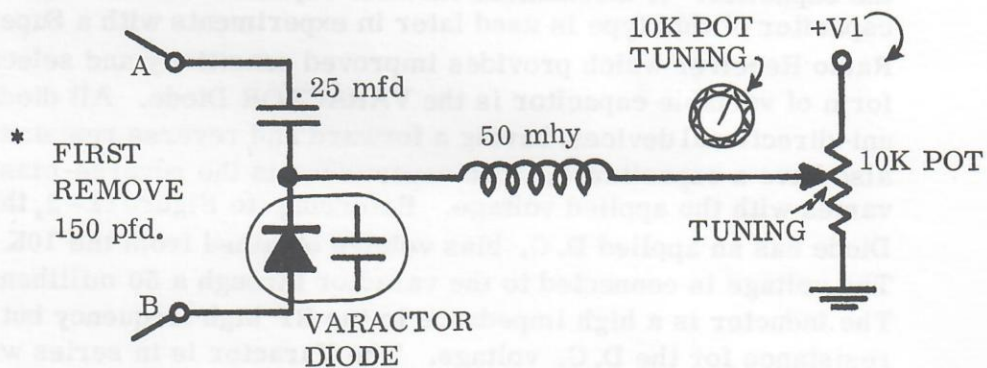

Figure 12-2 Varactor Tuning
The receiver frequency is determined by the resonant frequency of the tuned circuit. The radio channel frequency is varied by using the RF Coil Tuning slug knob. The frequency can also be varied by changing the value of the capacitor. A mechanical variable capacitor can be used for tuning. A capacitor of this type is used later in experiments with a Superhetrodyne Radio Receiver which provides improved sensitivity and selectivity. Another form of variable capacitor is the VARACTOR Diode. All diodes are not only uni-directional devices, having a forward and reverse resistance, but they also have a capacitance. The capacitance in the reverse-bias direction varies with the applied voltage. Referring to Figure 12-2, the Varactor Diode has an applied D.C. bias voltage obtained from the 10K Potentiometer. The voltage is connected to the varactor through a 50 millihenry inductor. The inductor is a high impedance to the RF high frequency but acts as a low resistance for the D.C. voltage. The Varactor is in series with a 0.25 mfd capacitor to "block" the D.C. Voltage from the tank circuit. The effective capacitance is the series combination of 0.25 mfd and the varactor capacitance which is approximately 150 pfd. Thus, the smaller varactor capacitance is the resultant and varying the 10K POT changes the resonant frequency and the tuning for the radio station.
6. Remove the 150 pfd capacitance from the circuit. Add the circuit from Figure 12-2 to replace the 150 pfd for tuning. Set the supply +V1 to maximum.